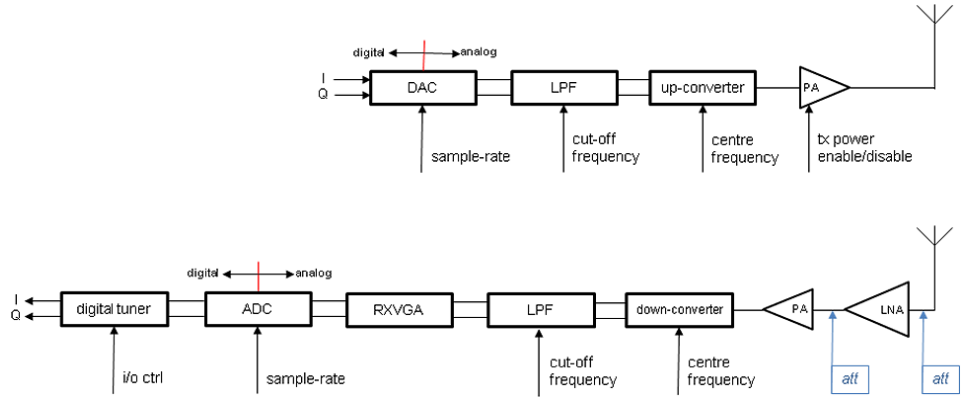

Figure 14 RF/Transceiver sub-system and Control Parameters
The hardware components and parameters available for controlling the RF/Transceiver sub-system of the Thunder are illustrated in *Figure 14*.
Referring to *Figure 14*, the software interface to the DAC (Tx) and the ADC (Rx) to the baseband domain is provided by a device driver controlling an FPGA device mounted on the digital board of the Thunder (See *Figure 2* on page 6). Control functionality for the RF/Transceiver sub-system is implemented in a separate FPGA device mounted on the RF board which is also controlled using the driver from the GPP. As described earlier in this chapter, the WfFPGAProxy and RfCtrlDevice components provide the necessary SCA abstraction for the device driver, where, in the case of data, the WfFPGAProxy is capable of sending/receiving interleaved 16-bit sampled complex baseband signal data to/from the RF/Transceiver sub-system (See Section 6.3, *Connecting Waveform with Platform*, on page 51, for more information).
- *wide-band* – affecting the Rx signal upstream of the low-pass filter (LPF) by attenuation of the signal at the Power Amplification (PA) phase (illustrated as ‘att’ in *Figure 14*).
The various control parameters required to control the RF/Transceiver sub-system, as shown in *Figure 14*, are exposed as SCA properties assigned to the `RfCtrlDevice` component provided as part of the DTP4700 SCA platform. *Table 4* provides an overview of those properties directly affecting the RF/Transceiver sub-system control.